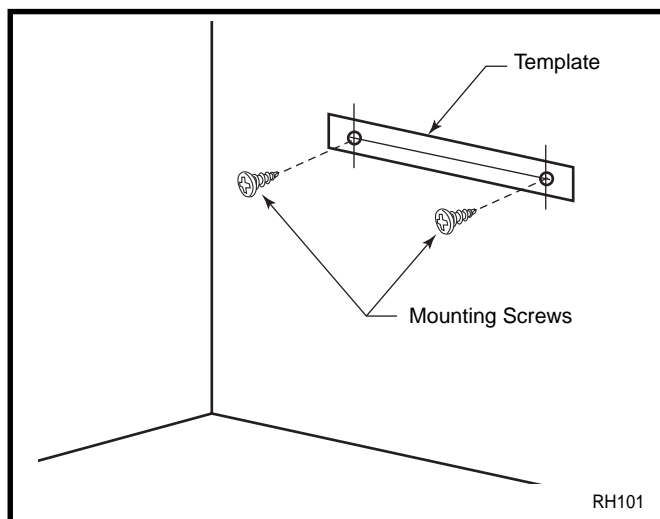

Fig. 3 Use paper template supplied to mark location of mounting holes. Be sure template is level.
1. Install mounting screws on wall as shown in Figure 3. Use enclosed "paper template" for proper location of holes. Be sure template is level. It may be necessary to use plastic or lead anchors for plaster walls.